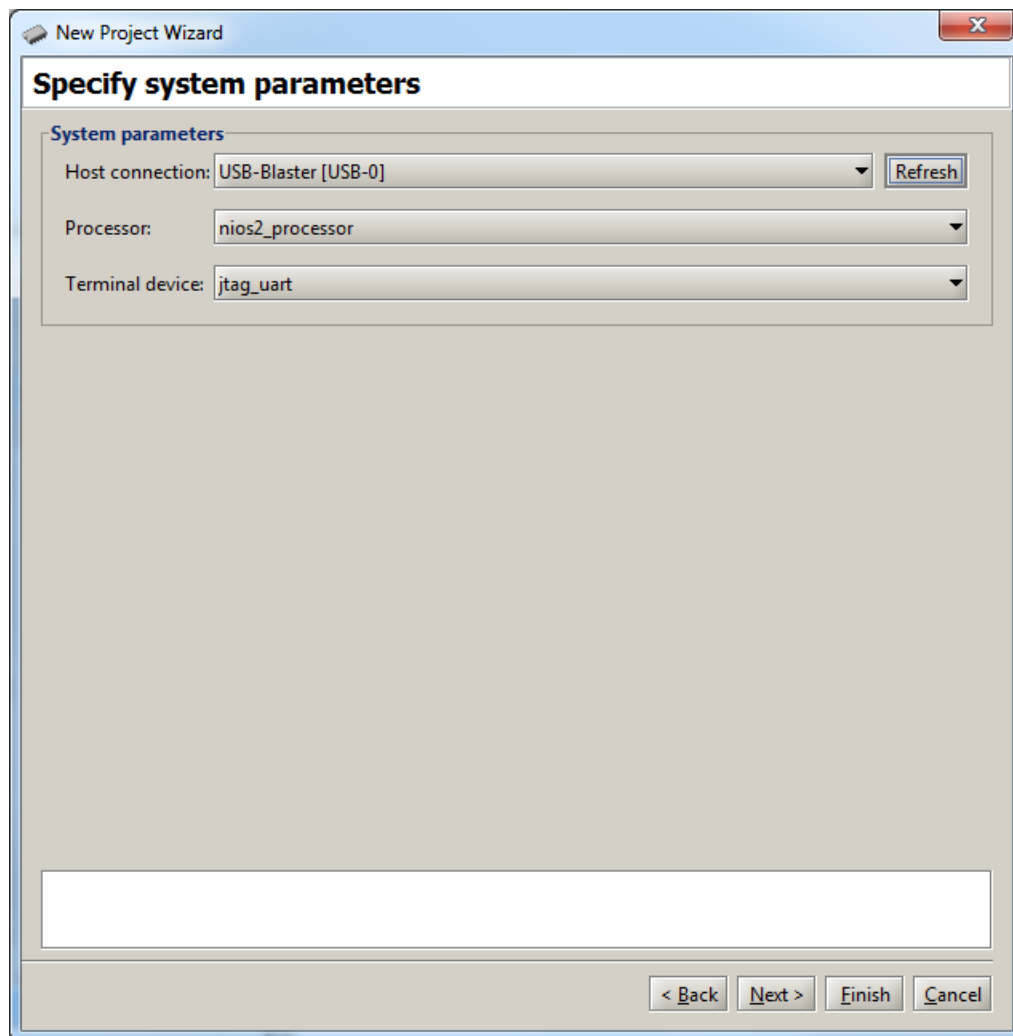

Figure 30. Specify the system parameters.
7. In the window in Figure 30, ensure that the Host Connection is set to *USB-Blaster*, the Processor is set to *nios2\_processor* and the Terminal Device is set to *jtag\_uart*. Click Next.